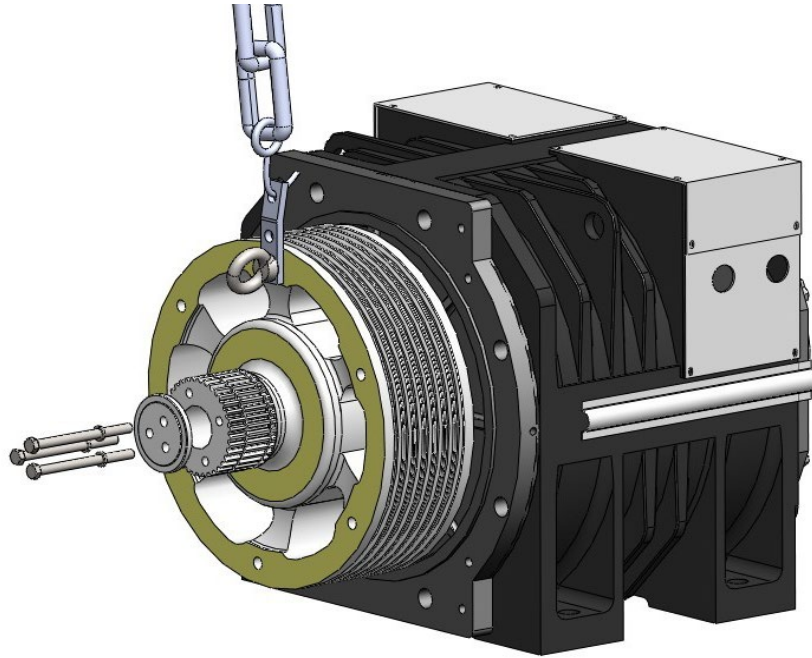

Figure 66 Install Sheave cover
3. Install the cover and tighten the bolts M12x150 with lock washer12 (3 pieces) use open end wrench (18mm) and then remove the hoisting equipment. See Figure 66.